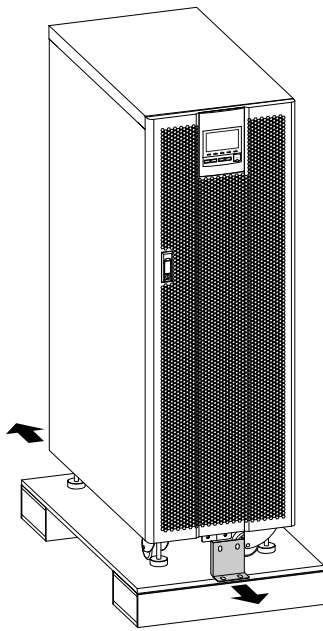

Figure3-5 Remove bottom supporting plates
- Step 5 Dismantle the 4 fasten bolts of bottom supporting plate and UPS, and 4 fasten bolts of wooden bracket and bottom supporting plate, and then, remove the supporting plates, as shown in Figure3-5.